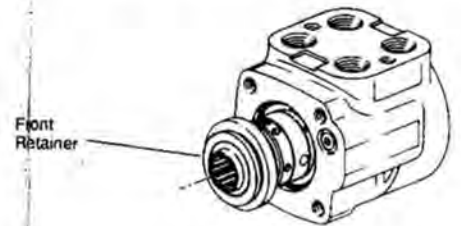

Figure 4
- 11 Rotate spool and sleeve until pin is horizontal. Push spool and sleeve assembly forward just far enough to remove front retainer from housing see Fig. 4.